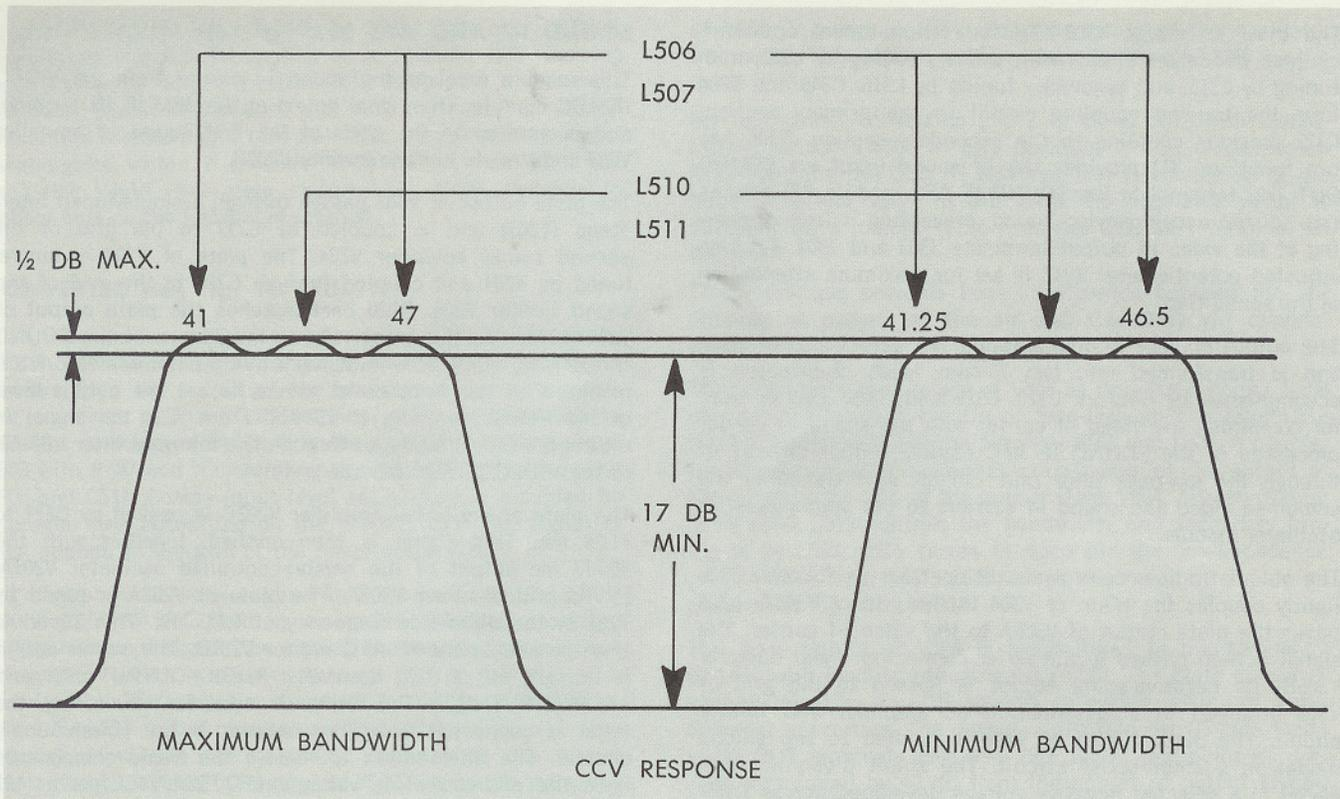

Fig. 10—CCV Response
3. Checking the output at J505, adjust L506, L507, L510 and L511 to yield a response as shown in fig. 10 (see note).